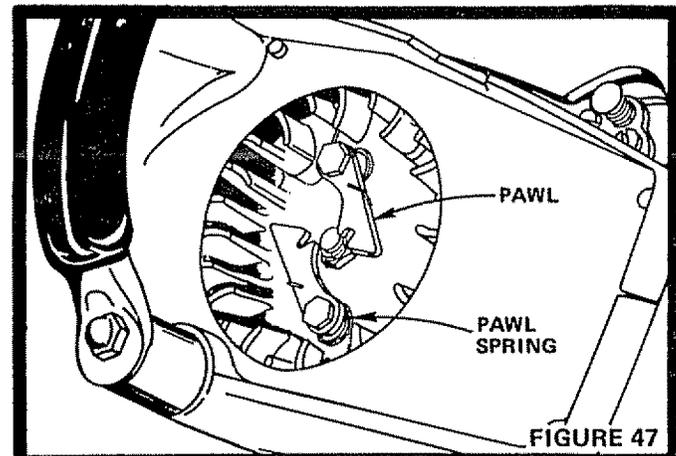

FIGURE 47
3. Slip new Springs over Pawls and hook as shown in Fig. 47.